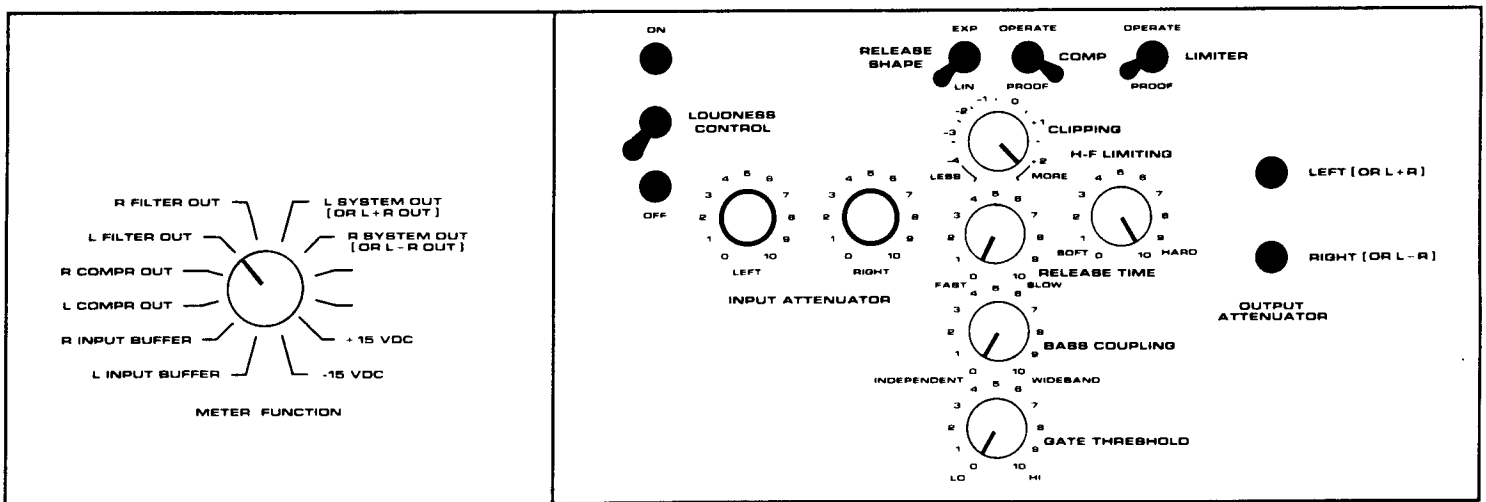

Fig. 2-7: Control Settings for Step 12
- A Set controls as shown in Fig. 2-7. If you are using the 8182A Audio Processor, set its controls as shown in Fig. 2-7.
- A Verify that the controls are set as shown in Fig. 2-7.